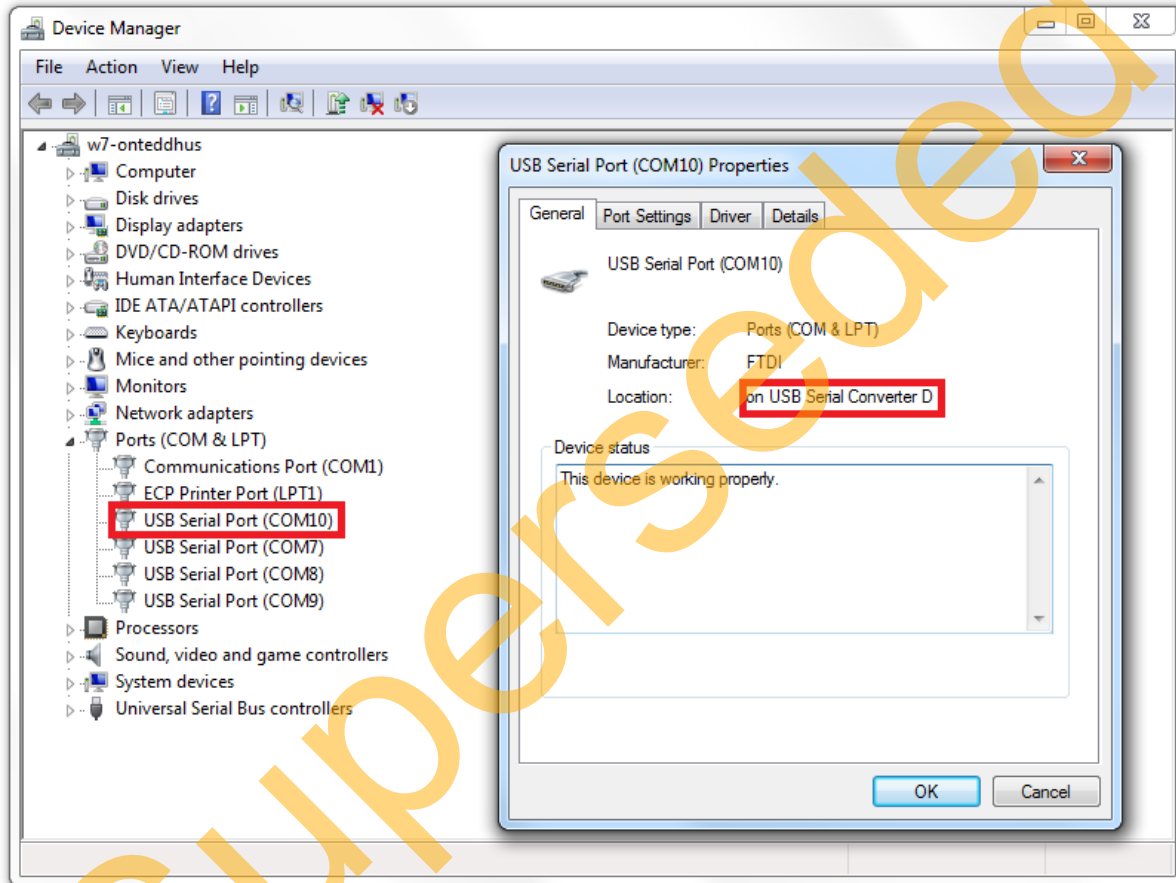

Figure 7 • Device Manager Window Showing the USB-to-Serial Communication Port
3. Connect the host PC to the J24 connector using the USB A to mini-B cable. The USB to UART bridge drivers are automatically detected. Verify if the detection is made in the device manager as shown in Figure 7.